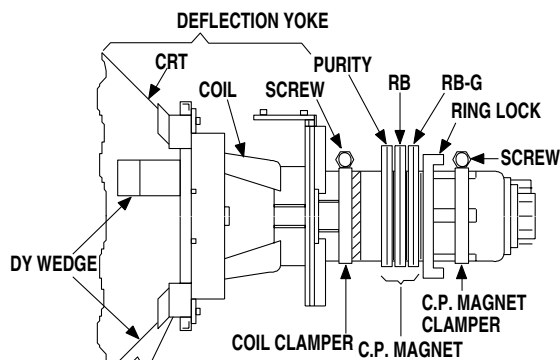

Fig. 7
5. Loosen the screw on the Deflection Yoke Clamper and pull the Deflection Yoke back away from the screen. (See Fig. 7.)